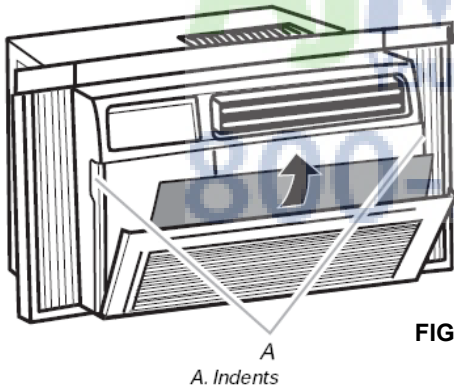

FIG. 5
1. Remove the filter by pulling down on the indents of the filter door on the front of the unit. (See FIG. 5)